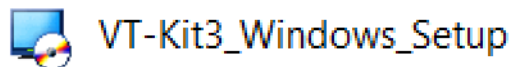

Figure 6. VT-Kit3 Driver Icon
3. Double-click on the VT-Kit3 driver icon to begin the installation procedure. Refer to Figure 6.